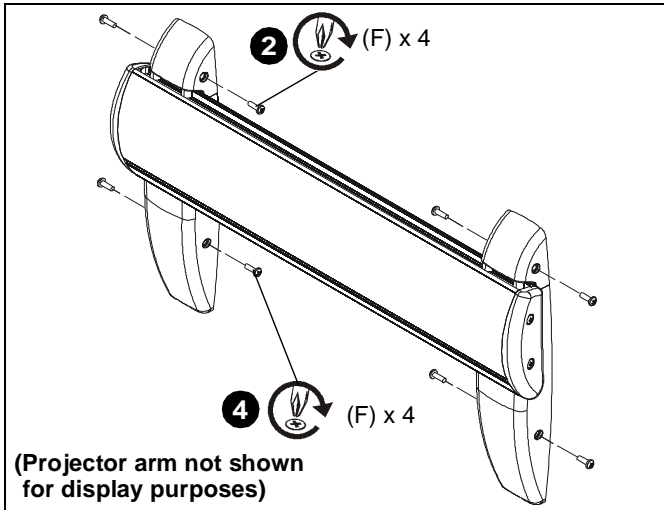

Figure 63
- Secure wall bracket top caps (C) to wall bracket arms by installing four #8-32 x 1/2" Phillips pan machine screws (F) through holes in covers and wall bracket. (See Figure 63)
- Secure wall bracket bottom caps (D) to wall bracket arms by installing four #8-32 x 1/2" Phillips pan machine screws (F) through holes in covers and wall bracket. (See Figure 63)